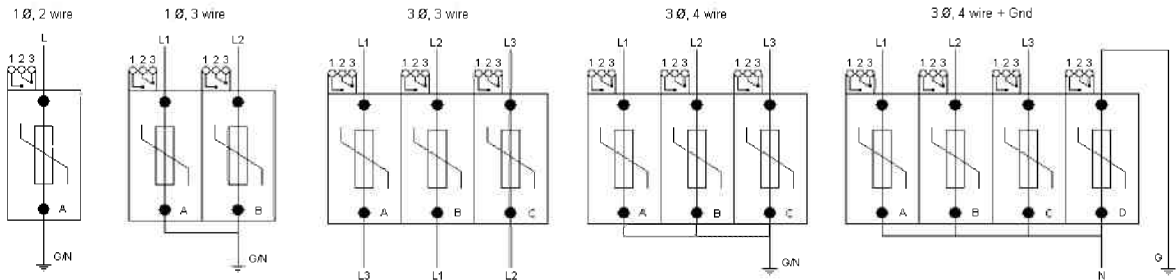

Figure 2
- Wire Installation:** #6 – #14 AWG wire may be used. Maximum torque to be applied to terminal screws is 14.75 in-lb. Strip back wire insulation 8mm (5/16”). Interconnecting wire should be no longer than 500mm (20”) in total length. Wire bending radius should be > 100mm (4”). Do not loop or twist interconnecting wire. Failure to meet these requirements will result in higher let-through voltages. I2R SA -50 is installed in parallel with the load or the electrical system wiring. Determine electrical voltage configuration and proper modes of protection and install wiring as shown in Figure 2.